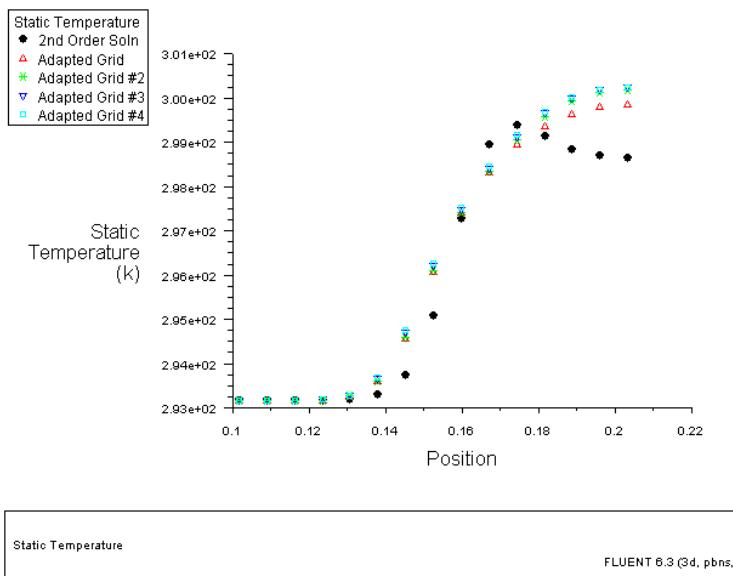

Figure 1.23: Outlet Temperature Profiles for Subsequent Grid Adaption Steps
**Extra:** You can perform additional grid adaptions based on temperature gradient and run the calculation to see how the temperature profile changes at the outlet. A case and data file (`elbow4.cas.gz` and `elbow4.dat.gz`) has been provided in which the grid has undergone three more levels of adaption, and the resulting temperature profiles have been plotted with `outlet_temp2.xy` and `outlet_temp3.xy` in Figure 1.23.
*It is evident from Figure 1.23 that as the grid is adapted further, the profiles converge on a grid-independent profile. The resulting wall temperature at the outlet is predicted to be around 300.25 K once grid independence is achieved. If the adaption steps had not been performed, the wall temperature would have incorrectly been estimated at around 298.5 K.*